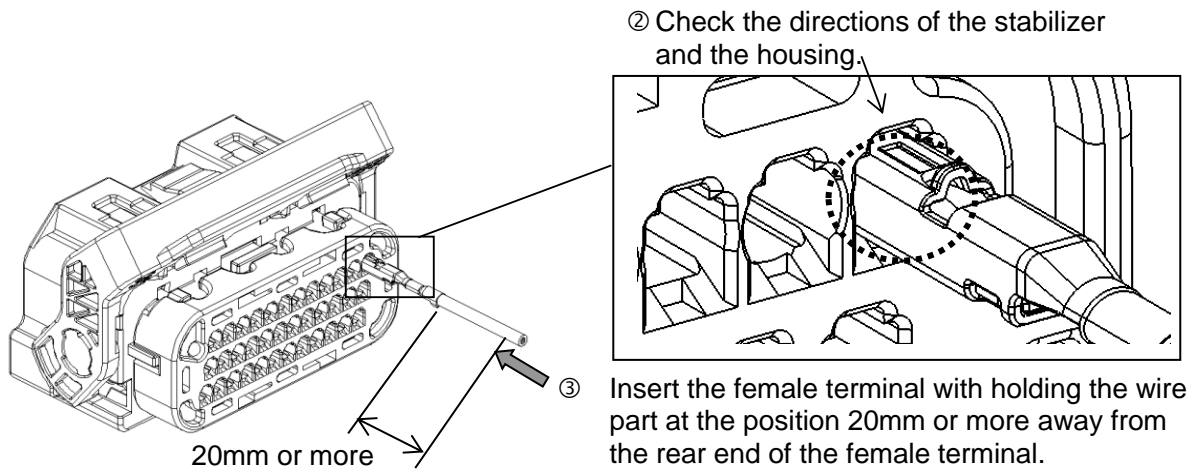

Fig.5
- ② Check that the direction of the female terminal is proper before the insertion. (Fig.-5)
- ③ Hold the wire part at the position 20 mm or more away from the rear end of the female terminal and insert the female terminal without prying straightly into the housing until stopping with an audible click. (Fig.5 and 6) At that time, pay attention not to bent the wire.
- ④ Pull the wire softly to check that the female terminals are fully inserted.